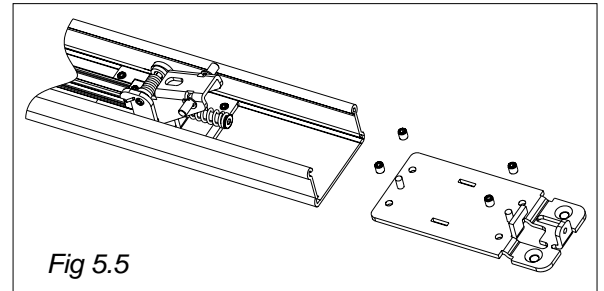

Fig 5.5
- 5) Release the four grub screws and slide out rear fixing plate. (See Fig 5.5)
- d) Refit rear fixing plate, again **DO NOT OVER TIGHTEN** the grub screws. (**See Fig 5.5**)